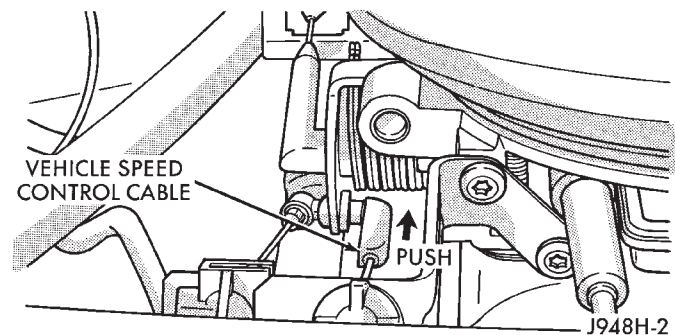

Fig. 6 Cable Connection at Throttle Body
- (1) Disconnect negative battery cable at battery.
- (2) Using finger pressure only, remove speed control cable connector at throttle body bellcrank by pushing connector off the bellcrank pin (Fig. 6). **DO NOT try to pull connector off perpendicular to the bellcrank pin. Connector will be broken.**